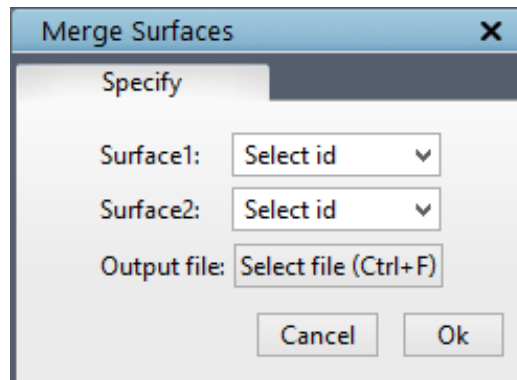

Figure 3.31: Merge Surfaces dialog box
**Merge** button is clicked, a dialog box opens as shown in figure 3.31. Select the two surface numbers that have to be merged and provide the output file name and click on **OK**. It will merge the two given surfaces and it will be replaced by a single merged surface.